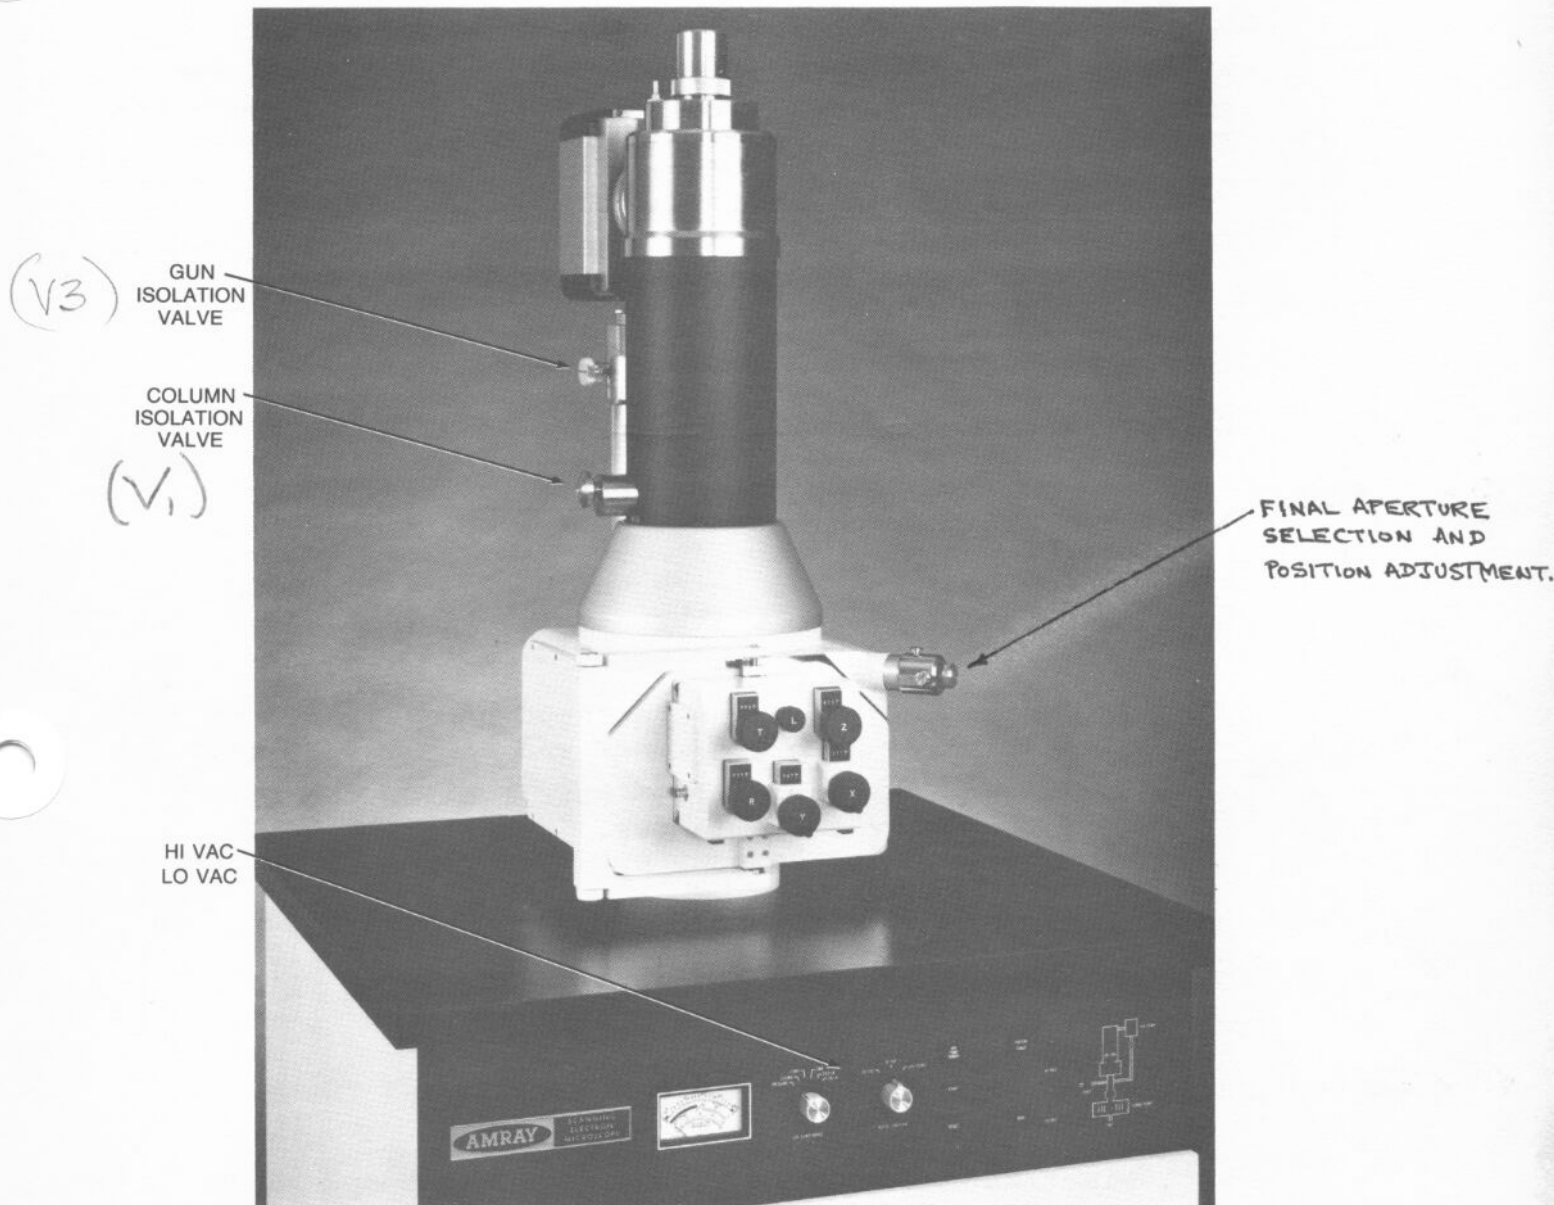

Figure 2.1
3. Do not open the Column Isolation Valve (figure 2.1) if the specimen chamber is vented and the electron gun area is under vacuum. *(V₁)*
7. Always close the Column Isolation Valve (figure 2.1) before turning off Console Power. This practice helps to protect the display scope (CRT) from burn spots. *(V₁)*
1. Close the Column Isolation Valve (figure 2.1).
1. Ion Pump power should be off. (VI)
- ✓3 OPENED 3. Open the Gun Isolation Valve (butterfly valve) located just behind and beneath the Ion Pump (figure 2.1).
- a. Column isolation valve and gun isolation valve open. (Fig. 2.1)
When the proper vacuum pressures are reached, the Lo-Vac and Hi-Vac green indicator lights (figure 2.1) will go on. The system is now ready for operation.